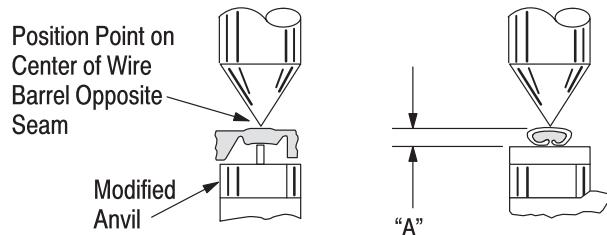

Figure 4
*This tool is provided with a crimp adjustment feature. Initially, the crimp height should be verified as specified in Figure 4. Refer to Section 6, CRIMP HEIGHT INSPECTION, and Section 7, CRIMP HEIGHT ADJUSTMENT, to verify crimp height before using the tool to crimp desired contacts and wire sizes.*
1. Refer to Figure 4 and select a wire (maximum size) for each crimp section listed.
3. Using a crimp height comparator, measure the wire barrel crimp height as shown in Figure 4. If the crimp height conforms to that shown in the table, the tool is considered dimensionally correct. If not, the tool must be adjusted. Refer to Section 7, CRIMP HEIGHT ADJUSTMENT.